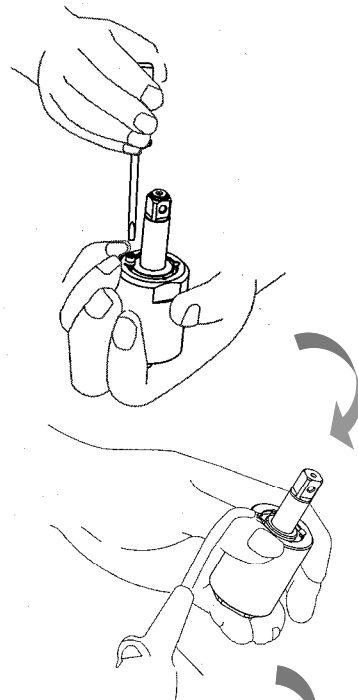

Fig. 235
- ❹ Use an air spray gun to blow off the oil on the cylinder seat, Fig. 235.